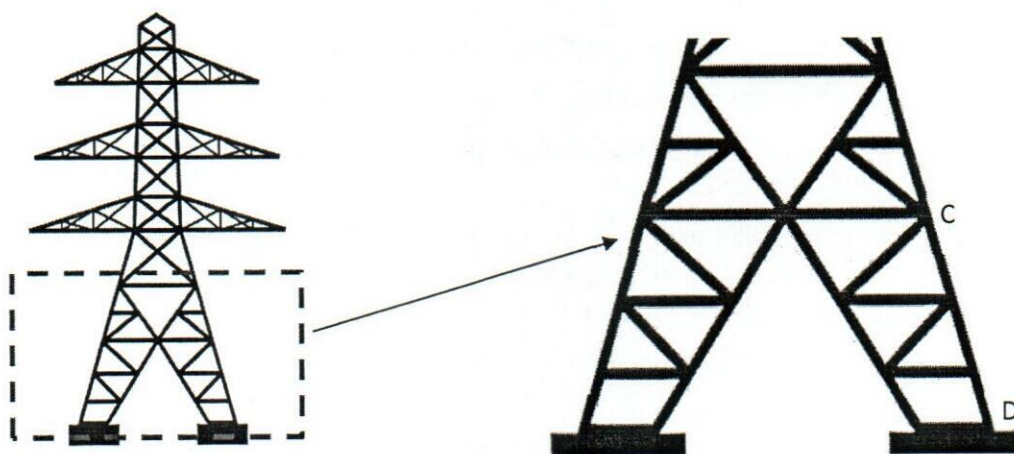

Figure Q1
- a) Figure Q1 shows a schematic of a steel tower (or referred to as a pylon) to be designed as a part of a proposed electricity transmission project. The following details are given to you as the junior design engineer.
- iv. The critical internal force of member CD (see Figure Q1) is obtained as 516 kN in pure axial compression. If the angle section to be used is selected as 150x150x10 (having an equal leg width of 150 mm, and thickness of 10 mm), classify whether it is a slender or non-slender section. [06 marks]
- b) Sketch two other structural forms (member layout) to perform the same functions that you may consider as an alternative to the form given in Figure Q1. [06 marks]